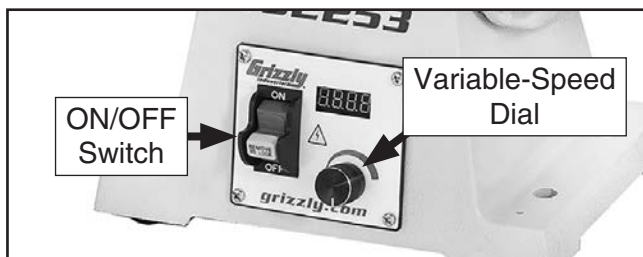

Figure 10. Control panel components.
2. Turn variable-speed dial all the way counterclockwise and make sure ON/OFF switch is in OFF position (see **Figure 10**).
4. Move ON/OFF switch up to turn machine **ON** (see **Figure 10**). Work light should illuminate.